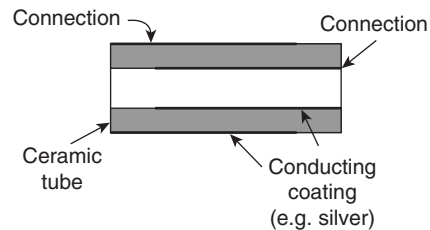
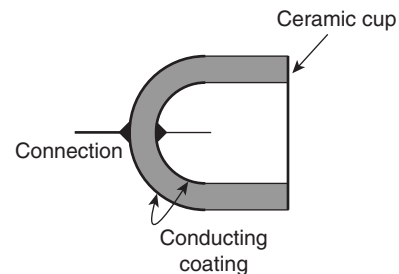
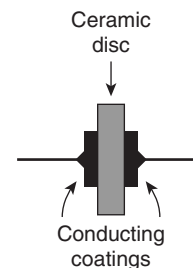

Figure 6.17
Figure 6.18
Figure 6.19
4. **Ceramic capacitors.** These are made in various forms, each type of construction depending on the value of capacitance required. For high values, a tube of ceramic material is used as shown in the cross-section of Fig. 6.17. For smaller values the cup construction is used as shown in Fig. 6.18, and for still smaller values the disc construction shown in Fig. 6.19 is used. Certain ceramic materials have a very high permittivity and this enables capacitors of high capacitance to be made which are of small physical size with a high working voltage rating. Ceramic capacitors are available in the range  $1\text{pF}$  to  $0.1\mu\text{F}$  and may be used in high-frequency electronic circuits subject to a wide range of temperatures.